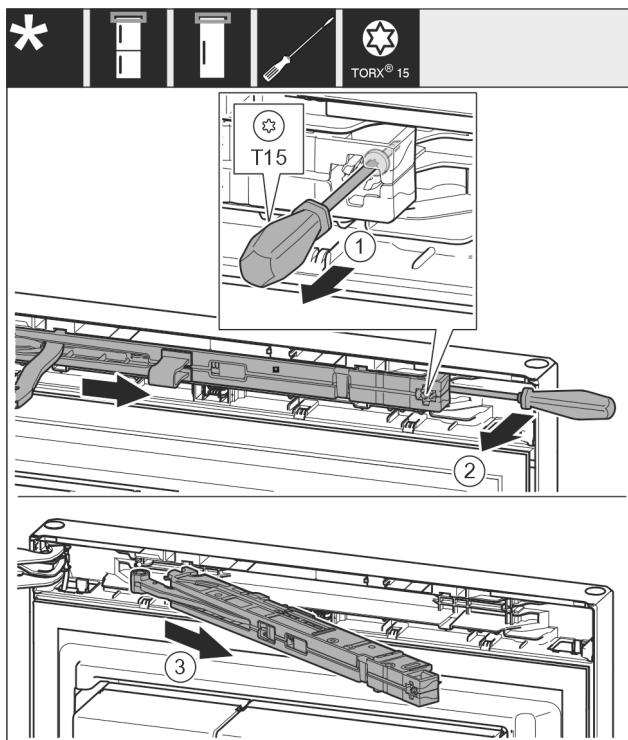

Fig. 12
- Use a screwdriver to snap out the cover *Fig. 12 (1)*.
- Pull out the cover *Fig. 12 (2)*.